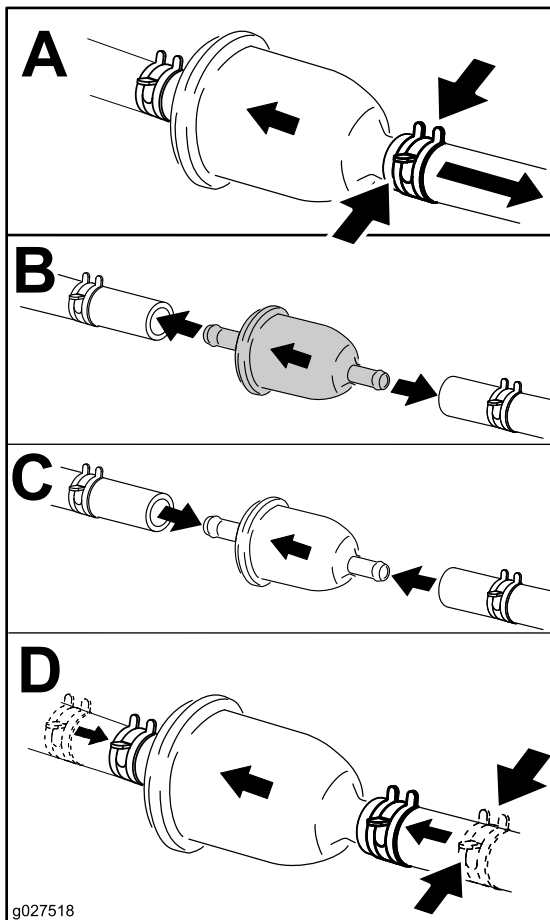

Figure 41
3. Replace the filter (Figure 41).